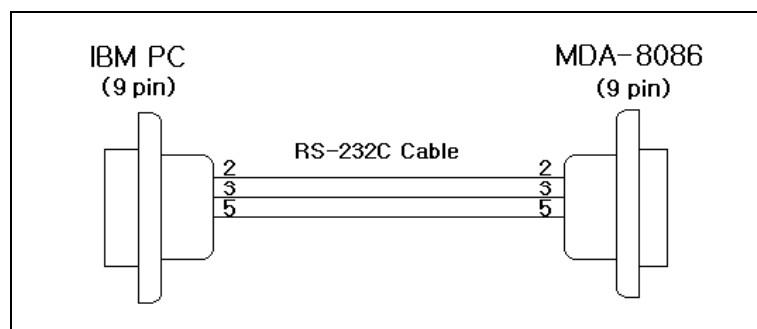

Fig. 1.4 Serial communication cable to be connected between PC and MDA-8086
- Connect the serial cable as shown in Fig. 1.4 between the PC COM1 port and MDA-8086 serial port.